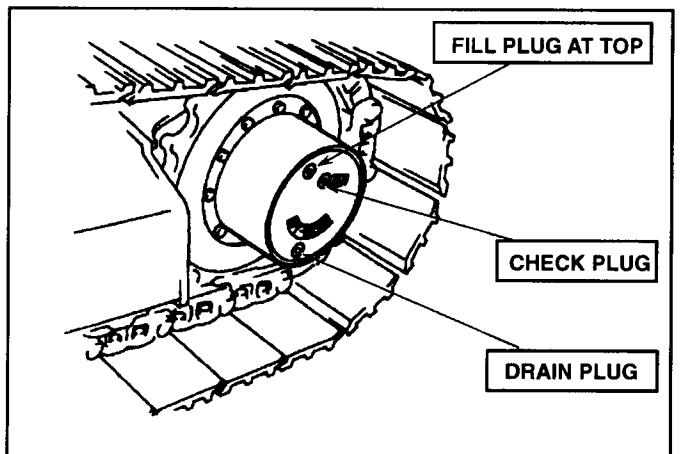

FIGURE 4.112
1. Move machine to a firm, level surface. Operate travel until "FILL" Plugs on travel motors are at top. See Figure 4.112.
2. Stop engine and remove the Travel Motor Reduction Unit Oil Level Plug. See Figure 4.112. If oil just seeps from Level port, oil level is correct.